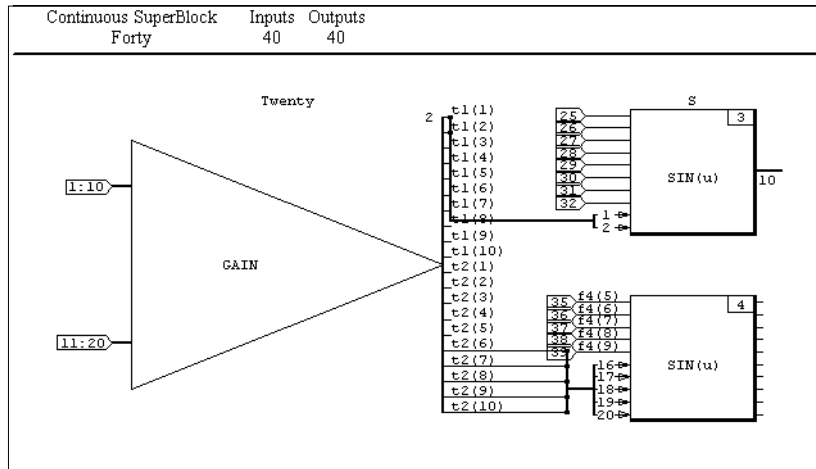

FIGURE 4-11 Diagram Before Outputs
8. Create a connection from external inputs 35:39 to the first 5 inputs of block 4. The diagram should now resemble Figure 4-11.